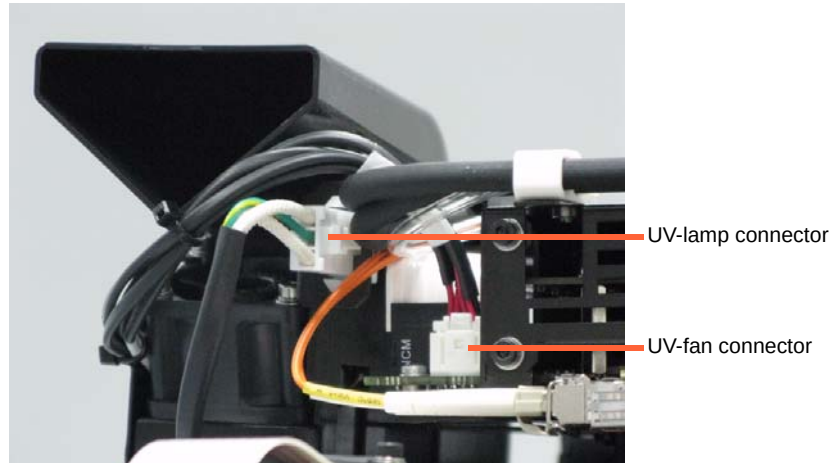

Figure 7-61: Disconnecting the UV lamp assembly
17. Reconnect the power connections (see figure 7-61).